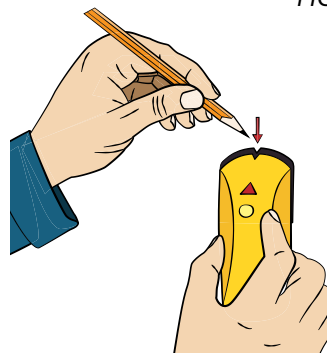

FIG. 9b
- Use a stud finder to identify where you will install the ductwork hangers in your shop. It must mount to a reinforced ceiling or wall (studs, joists, etc.) [FIG. 9b].